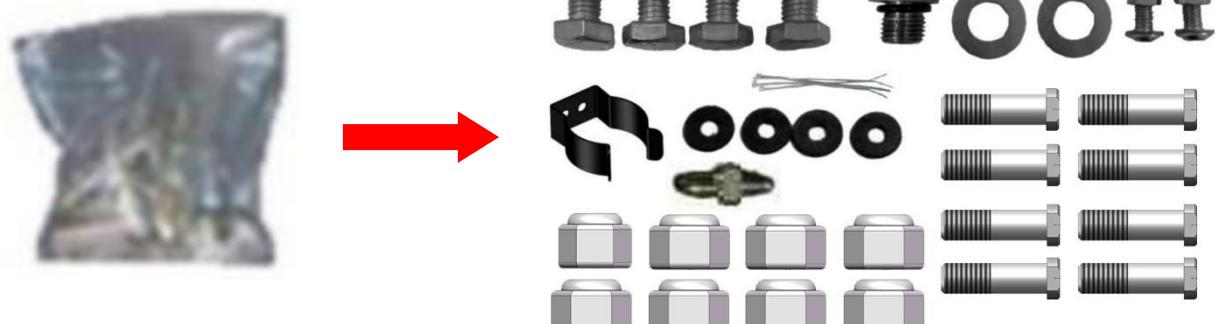

Fig.7
3. Check the parts of the parts bag according to the parts bag list (**See Fig. 7**).